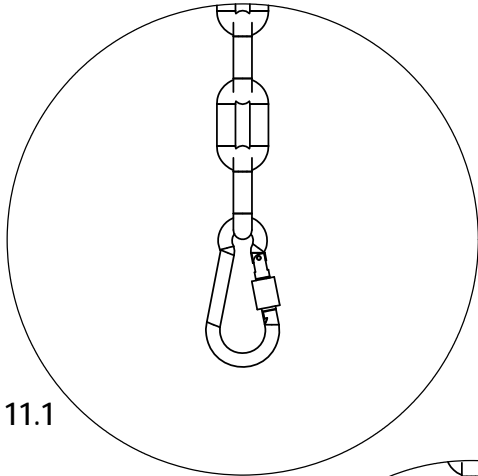

FIG. 11.1
1. ATTACH CHAIN TO SPRING CLIP FIRST, POSITION AT TOP OF CLIP. (FIG 11.1)